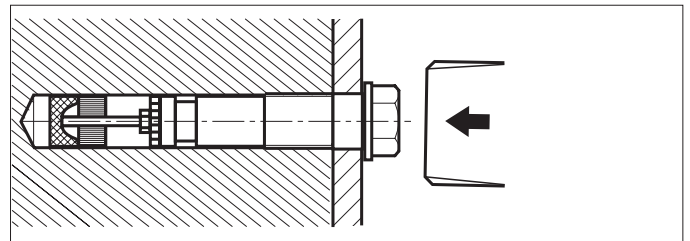

Fig. 3
- ⇒ Drive the anchor bolts into the main holes with light hammer blows until they are flush with the plate (Fig. 3).